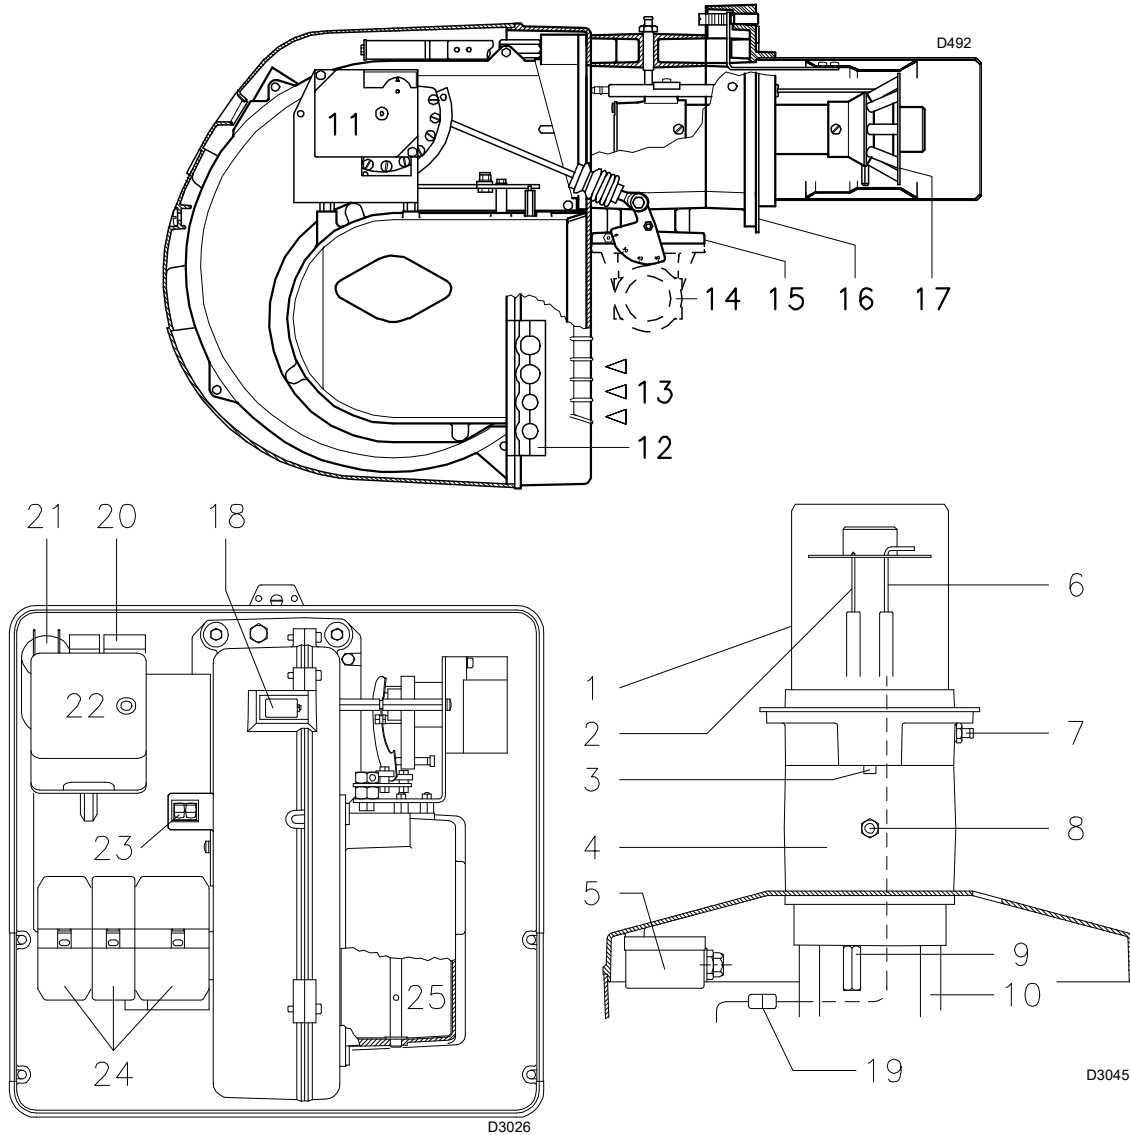

Fig. 4
- (1) Reference conditions: Ambient temperature 20°C - Gas temperature 15°C - Barometric pressure 1013 mbar - Altitude 0 m a.s.l.
(2) Pressure at test point 8)(Fig. 4 on page 12) with zero pressure in combustion chamber and at maximum burner output.
(3) Sound pressure measured in manufacturer's combustion laboratory, with burner operating on test boiler and at maximum output. The sound power is measured with the "Free Field" method, as per EN 15036, and according to an "Accuracy: Category 3" measurement, as described in EN ISO 3746.
(4) Blast tube: short-long
if the control box button (**red LED**) 22)(Fig. 4) lights up, it indicates that the burner is locked out.
Release by pressing the button on thermal relay 20)(Fig. 4).